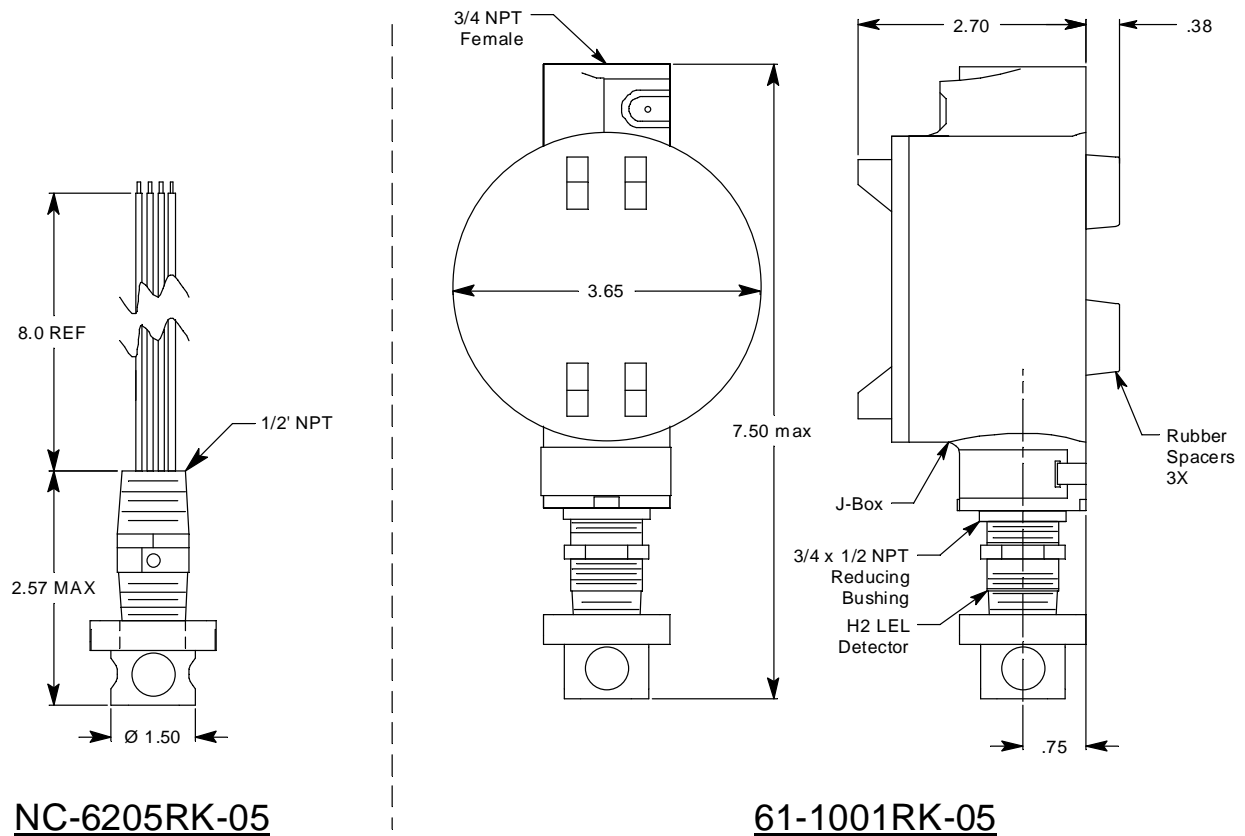

Figure 2: Mounting the Hydrogen Detector
2. At the mounting site you select, hang or mount the junction box with the detector facing down (see Figure 2).